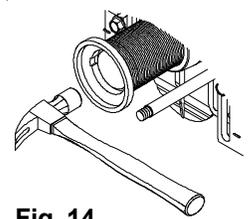

Fig. 14
a. **Standard, -CS, and -CC Couplings** – Remove coupling protector. Ensure coupling extends 5/16" from finished wall. Knock out the test cap with a hammer and deburr sharp edges. See Fig. 14